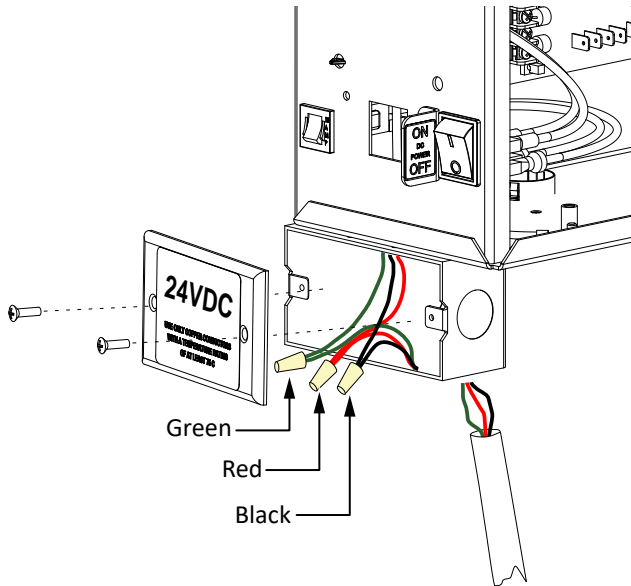

Figure 26. Solar Panels Wiring Connection
- Slide the plastic cover off the control box and attach the red spade connector to the battery terminal on the upper DC power switch. See Figure 26.
- Turn both DC power switches ON and program the Smart DC Controller. See Figure 26. See "Programming the Initial Setup Menu" on page 26.